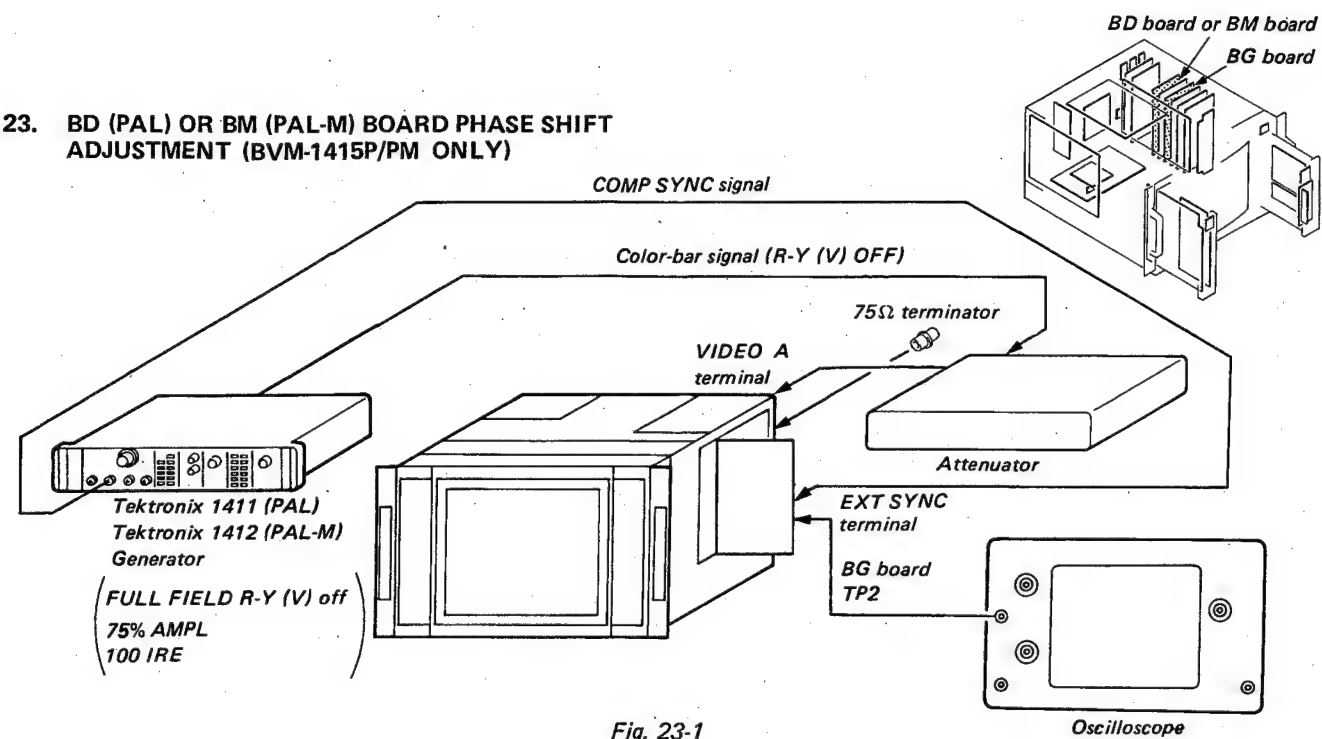

Fig. 23-1
1. Complete the connection as shown in Fig. 23-1.
- INPUT selector (FRONT PANEL (R)) ... A (☐)
- SYNC selector (FRONT PANEL (R)) ... EXT (☐)